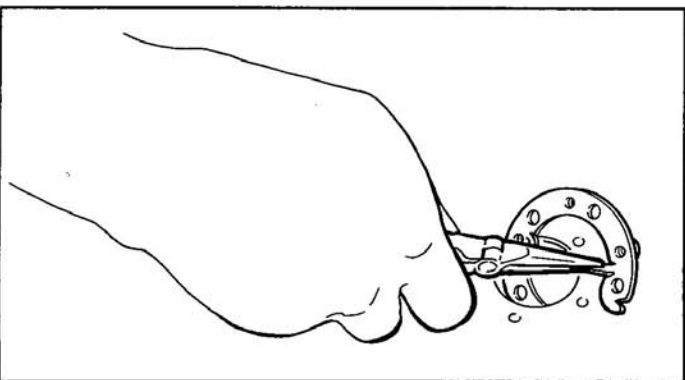

Fig. 8
13. Hold one of the tabs with a needle-nose pliers, and insert the backing plate into the 1-5/8" hole in the tank. When installing, insert the end **without** a notch into the tank opening first. See Fig. 8.